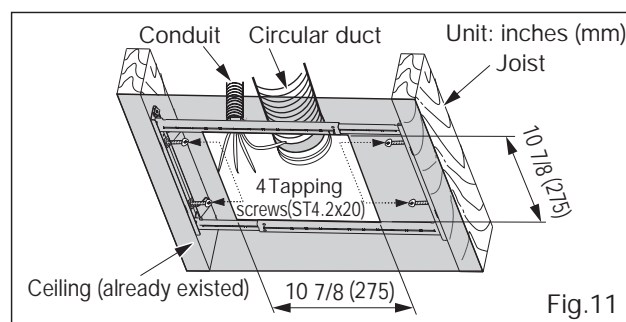

Fig.11
1. Remove the existing fan and cut ceiling opening. Secure the Flex-Z Fast™ bracket to joists by drilling 4 tapping screws (ST4.2x20) which have been fixed on it. Existing ductwork and wiring left in place. (Fig.11)